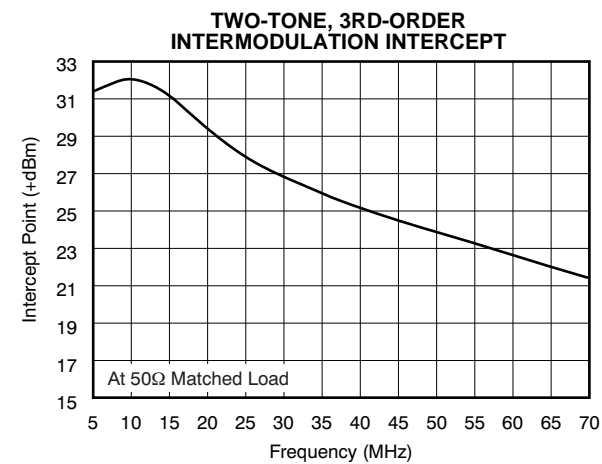
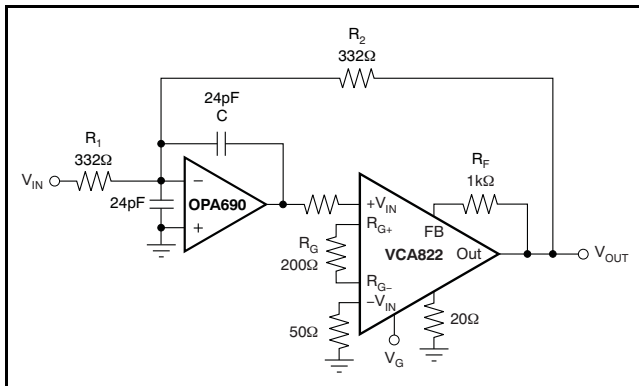

Figure 67.
Figure 86. Voltage-Control Low-Pass Filter
In the circuit of Figure 86, the VCA822 serves as the variable-gain element of a voltage-controlled low-pass filter. This section discusses how this implementation expands the circuit voltage swing capability over that normally achieved with the equivalent multiplier implementation. The circuit control voltage, V_G , is calculated as according to the simplified relationship in Equation 4:
Because the VCA822 is most linear in the midrange, the median of the adjustable pole should be set at $V_G = 0V$ (see Figure 26, Figure 46, Figure 67, and Equation 6). Selecting $R_1 = R_2 = 332\Omega$, and targeting a median frequency of 10MHz, the capacitance (C) is 24pF. Because the OPA690 was selected for the circuit of Figure 86, and in order to limit peaking in the OPA690 frequency response, a capacitor equal to C was added on the inverting mode to ground. This architecture has the effect of setting the high-frequency noise gain of the OPA690 to $+2V/V$, ensuring stability and providing flat frequency response.